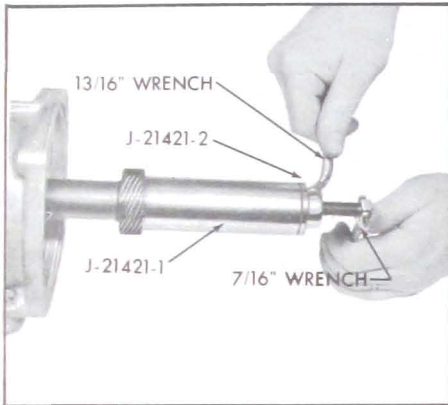

Figure 5-326
1. With transmission in a horizontal position install speedometer driving gear. Place transmission in Park range. Using Tools J-21421-1 and J-21421-2 drive speedometer driving worm gear onto output shaft. Drive gear on until J-21421-2 bottoms on end of output shaft. When tool bottoms speedometer driving gear is in proper location. See Figure 5-326. When installing speedometer driven gear on "55" and "65" Style wagons use Detail J-21421-3 instead of J-21421-1.